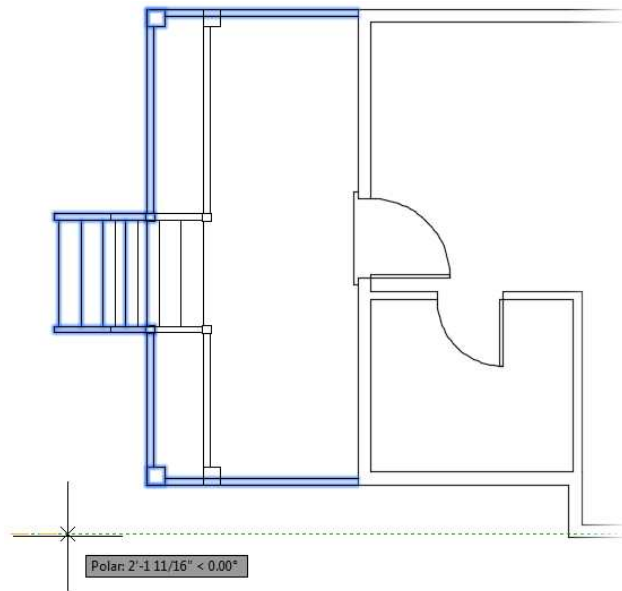

FIGURE 5.31: The deck after specifying the base point for the STRETCH command
6. The open end of the deck needs to be stretched 4'-0" (1220 mm) to the right. Pick a point anywhere in the drawing area and then move the cursor to the right. You will see the deck stretching to the right while a glowing version remains in place (see Figure 5.31).